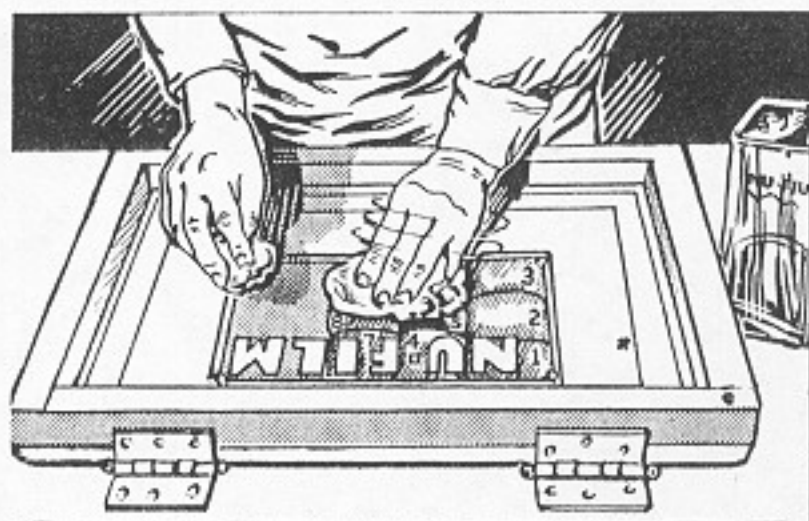

Fig. 128. Moisten Small Area and Immediately Dry
15. Continue wetting small patches, drying them immediately. Use a light rubbing motion to dry the screen and continue rubbing until all of the adhering liquid has evaporated, Fig. 128. Work up and down one end of the screen, then make another row of patches.